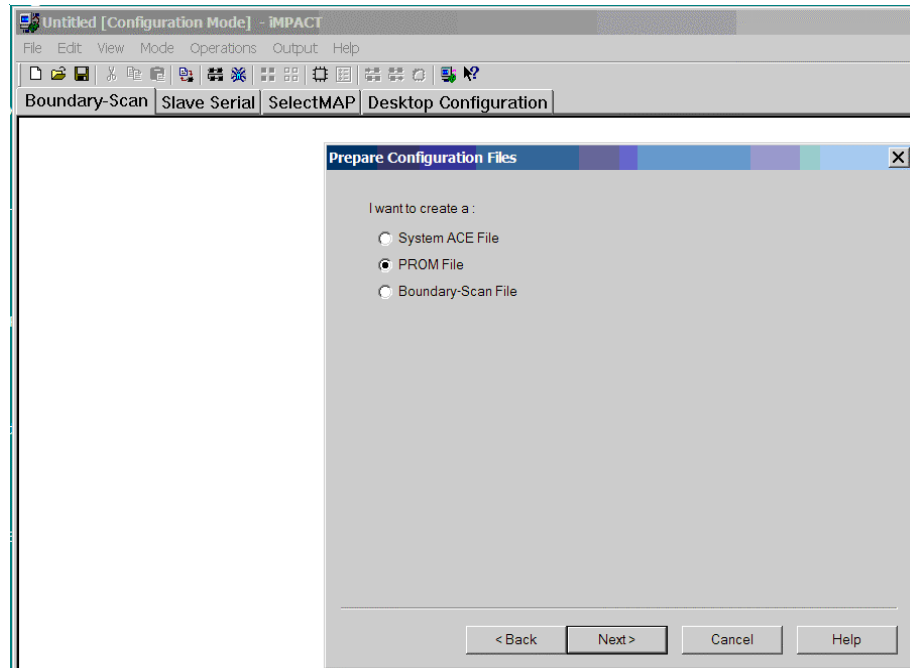

Figure B-2: **Selecting PROM File**
- Click on Next and select PROM File in the Prepare Configuration Files option menu shown in Figure B-2.